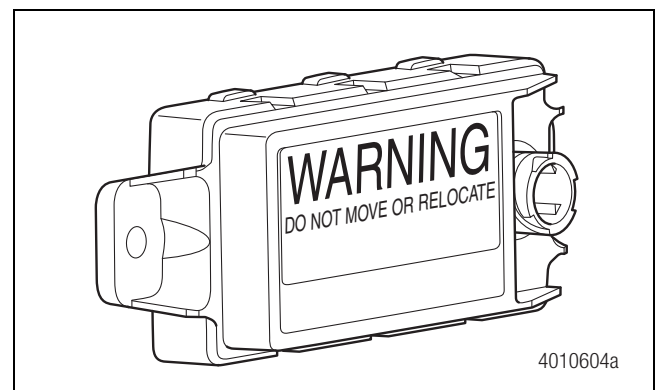
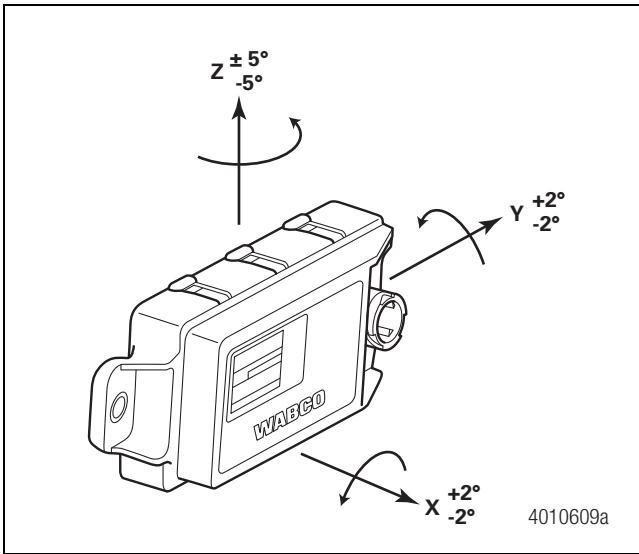

Figure 4.15
Figure 4.16
4. Disconnect the wiring harness connector from the ESC module. Figure 4.15 and Figure 4.16.